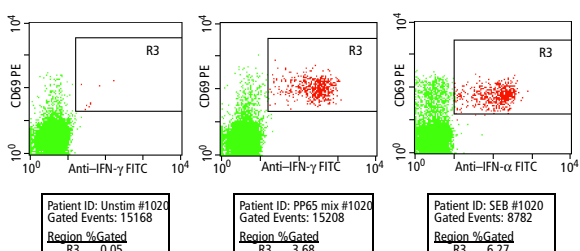

Figure 2 Unstimulated, CMV-pp65 peptide mix stimulated, and SEB-stimulated samples, R1 and R2 gated
4. Analyze data using BD CellQuest Pro, BD CellQuest, or BD Paint-A-Gate™ Pro software. Display data as Anti-Hu-IFN- γ vs CD69 dot plots to determine cytokine expression (Figure 2). The dot plots are gated with the same requirements for G3 as determined during acquisition (CD3⁺/CD8⁺ and lymphocyte scatter characteristics). See Figure 2.
5. To obtain statistics, draw a region around the CD69 and Anti-Hu-IFN- γ double-positive events in a positive control sample (for example, SEB), and apply this region to your sample files (Figure 2). The % gated statistic gives frequency of cytokine-producing CD8⁺ cells.